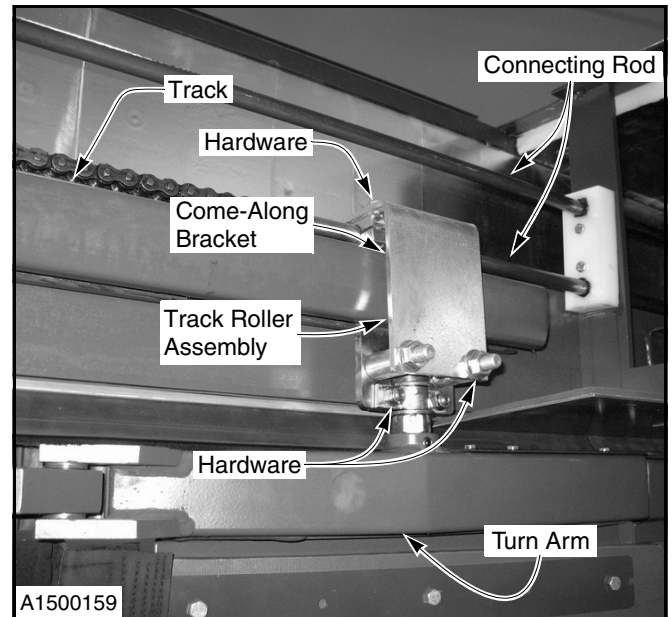

Figure 17
2. Inspect both come-along brackets to ensure all hardware is in place and tight. (See Figure 17.)
3. Check each track roller assembly. All hardware must be in place and tight. Rollers must move freely and be in firm contact with the track. The track should not be worn or damaged. (See Figure 17.)